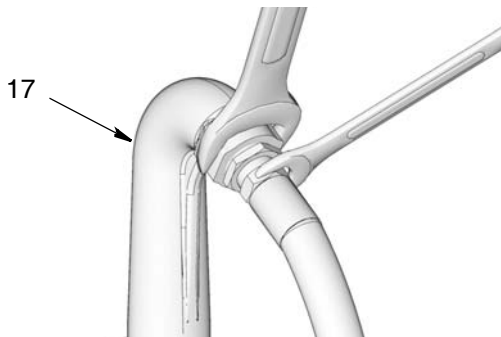

FIG. 55
- b. Attach end of the hose to the outlet (17) using two wrenches on the flats, working in opposite directions, to securely tighten the hose to the outlet fitting (FIG. 55).